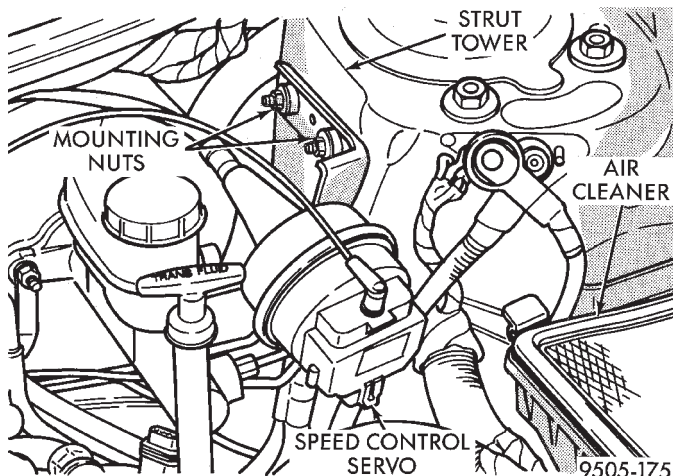

**Fig. 106 Speed Control Servo Attachment To Strut Tower**
(7) If equipped, remove the vehicle's wiring harness connector from the speed control servo. Remove the 2 speed control servo mounting bracket to strut tower attaching nuts (Fig. 106). Without removing speed control cable from servo, move speed control servo out of the way.
(13) If equipped, install speed control servo on the mounting studs in the left strut tower (Fig. 106). Install the 2 speed control servo bracket mounting nuts (Fig. 106). Tighten the 2 mounting nuts to a torque of 6 N·m (55 in. lbs.). Install electrical connector on speed control servo.